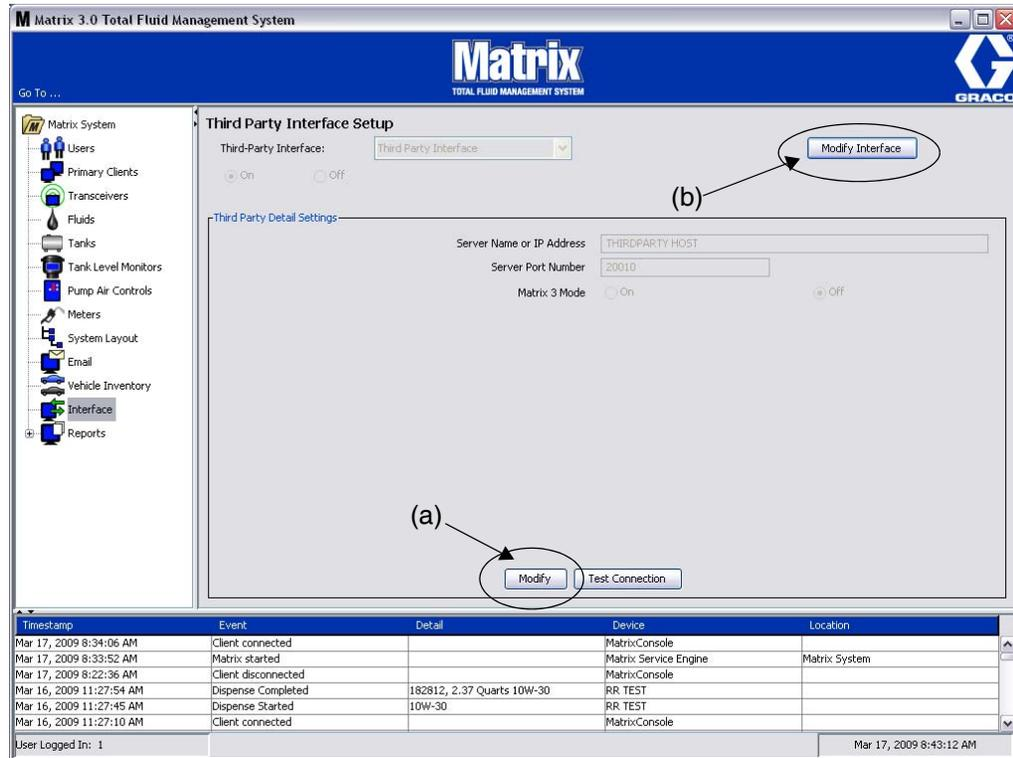
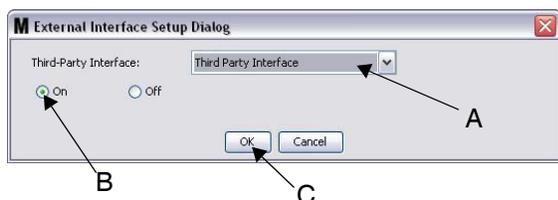

FIG. 179
FIG. 181 External Interface Setup Dialog
1. Click the **Modify** button (a) (FIG. 179, page 126) to display the External Interface Setup Dialog box.
1. Click the **Modify Interface** button (b) (FIG. 179). The External Interface Setup Dialog box shown in FIG. 181 displays. This dialog box is used to specify the Third Party Interface you are using.
2. From the drop down menu (A - FIG. 181) select Third Party Interface.
3. Click “**ON**” (B - FIG. 181). Third Party Interface enables Matrix to use the third party interface.
4. Click the **OK** button (C - FIG. 181) to close the screen and confirm your selection.